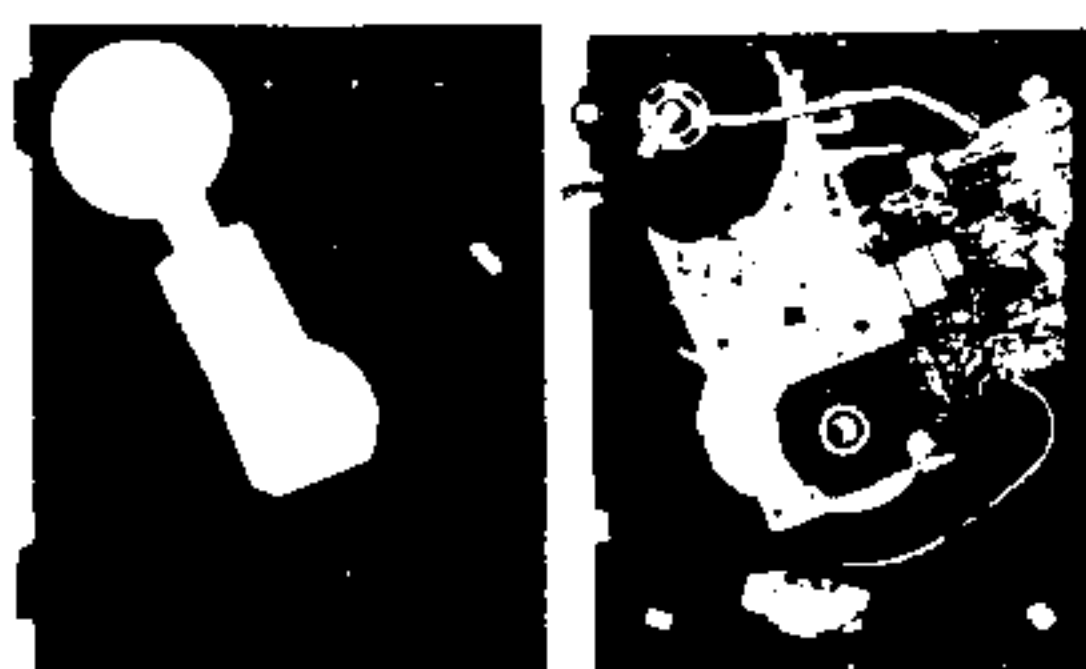

Fig. 4
9. For separation of the body from the bottom cover, turn the cueing lever upward, move the tone-arm in board direction, then lift up the body. (Fig. 4)